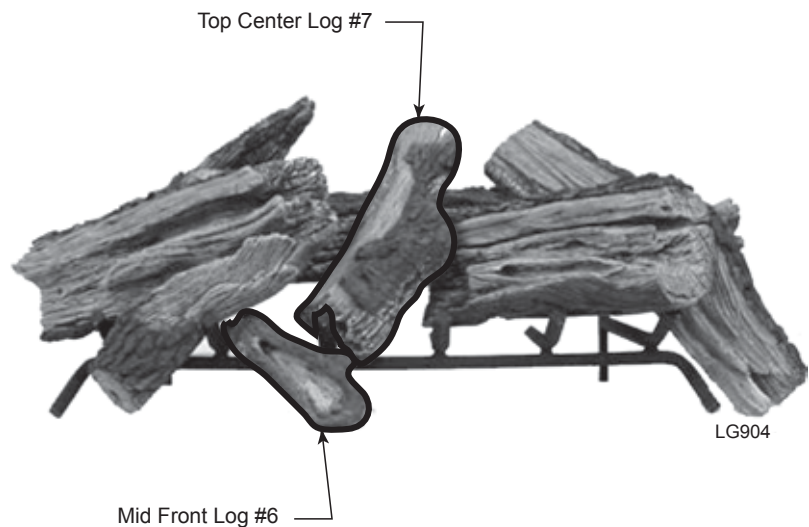

**Figure 110 -
7. Place Mid Front Log #6 on grate between center and middle left grate bars. Fit notch on back of log on the cross grate bar. *Figure 110*
8. Place wide end of Top Center Log #7 on Rear Log #1. Rest narrow end of Top Center Log #7 to the left of center grate bar barely touching the Mid Log #6. *Figure 110*